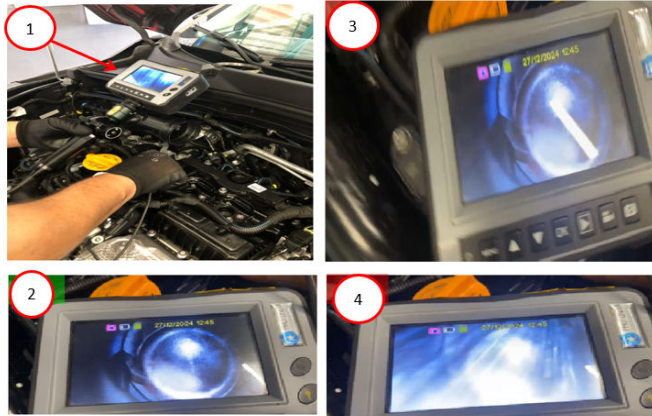

Fig. 2
- Using an Endoscope, check all injectors Fig. 2. With the help of a collaborator, ask him/her to turn the ignition key without starting the vehicle. Keep the ignition on for one minute per injector.